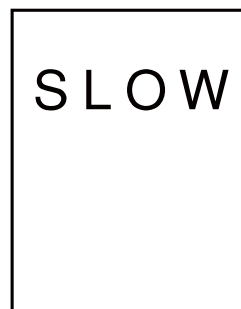

Fig.18
- (2) During heavy fog, rain or snow the visibility for the docking system can be reduced. When the system is activated and in capture mode, the display will deactivate the floating arrows and show "SLOW" (Fig.18). The message will be superseded by the closing rate bar as soon as the system detects the approaching aircraft. The pilot must not proceed beyond the bridge, unless the "SLOW" text has been superseded by the closing rate bar.